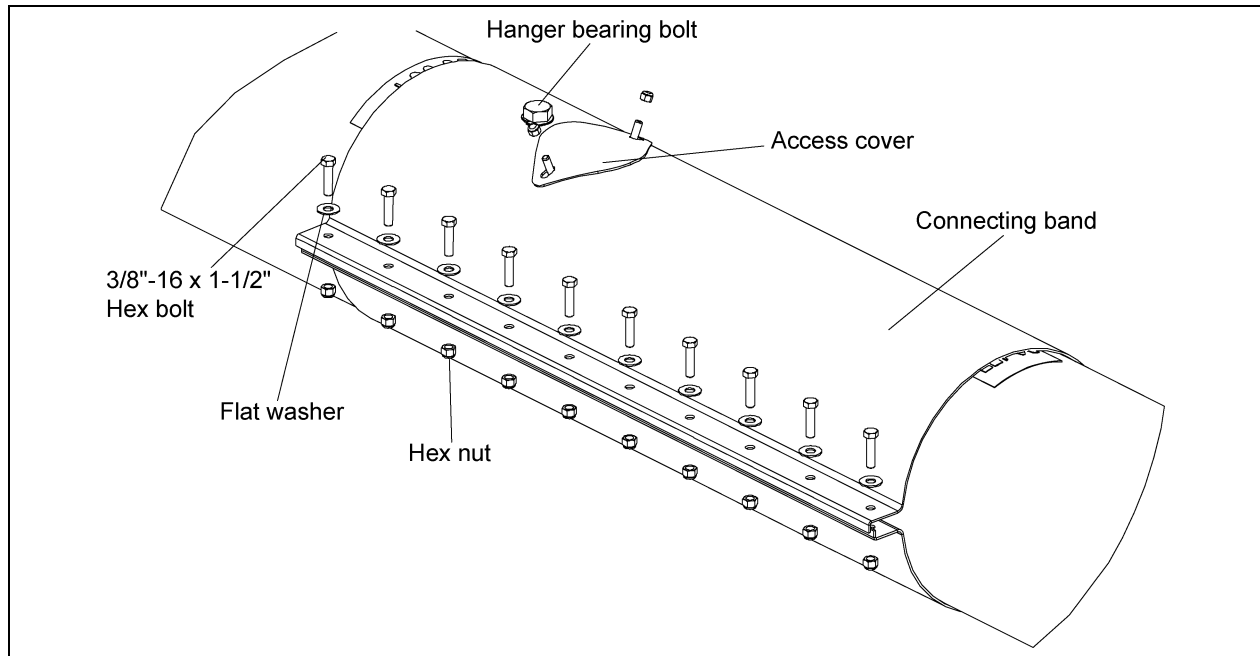

Figure 4U
- With hanger bearing secured bolt connecting band to tubes using the 3/8"-16 x 1-1/2" hex bolts and attach access cover using included nylock nuts. (See Figure 4U.)